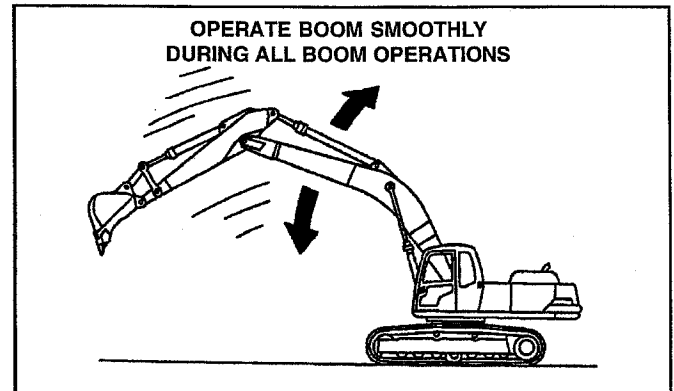

FIGURE 3.42
B. Operate Boom Smoothly- FIGURE 3.42